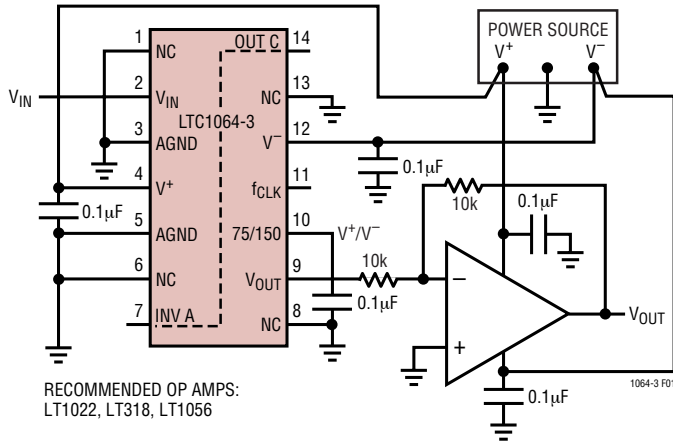

Figure 1. Buffering the Filter Output. The Buffer Op Amp Should Not Share the LTC1064-3 Power Lines
When testing the device for noise and distortion, the output, Pin 9, should be buffered (Figure 1). *The op amp power supply wire (or trace) should be connected directly to the power source. To eliminate switching transients from filter output, buffer filter output with a third order lowpass (see Figure 5).*
**V+, V- (Pins 4, 12):** Should be bypassed with a 0.1μF capacitor to an adequate analog ground. Low noise, nonswitching power supplies are recommended. *To avoid latchup when the power supplies exhibit high turn-on transients, a 1N5817 Schottky diode should be added from the V+ and V- pins to ground (Figure 1, 2 and 3).*
**50/100 (Pin 10):** Ratio Pin. The DC level at this pin determines the ratio of clock frequency to the -3dB frequency of the filter. The ratio is 75:1 when Pin 10 is at V+, 120:1 when Pin 10 is at GND and 150:1 when Pin 10 is at V-. This pin should be bypassed with a 0.1μF capacitor to analog ground when it’s connected to V- or V+ (Figure 1). See Tables 2 through 8 for typical gain and delay responses for the three ratios.